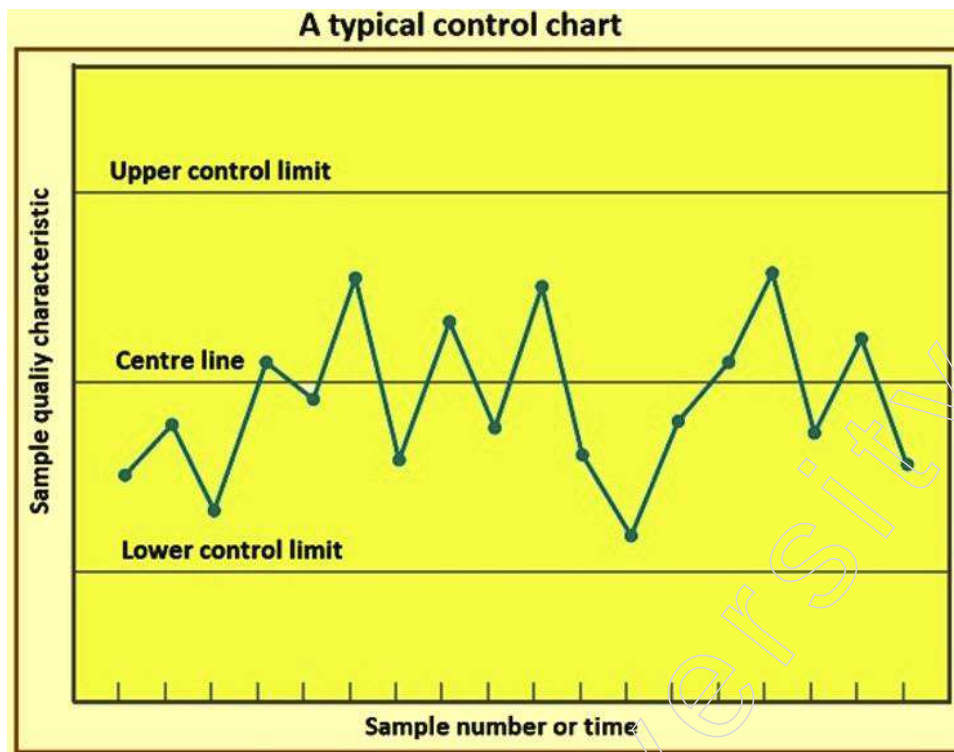

Fig 3 A typical control chart
Figure 3 depicts a basic control chart. This graph depicts the averages of measurements of a quality attribute in process samples vs time (or the sample number). The chart includes a centre line (CL) as well as upper and lower control boundaries. If